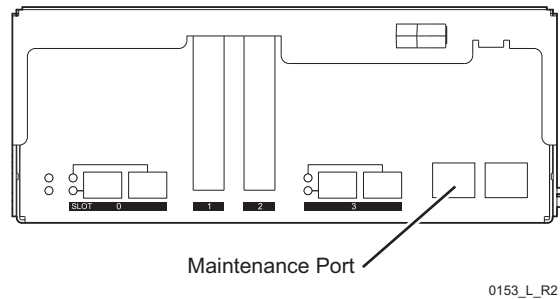

Figure 3-1. Location of the Maintenance Port
- 1 Insert a standard Category 5 cable into the maintenance port of one of the controller nodes as shown in Figure 3-1.